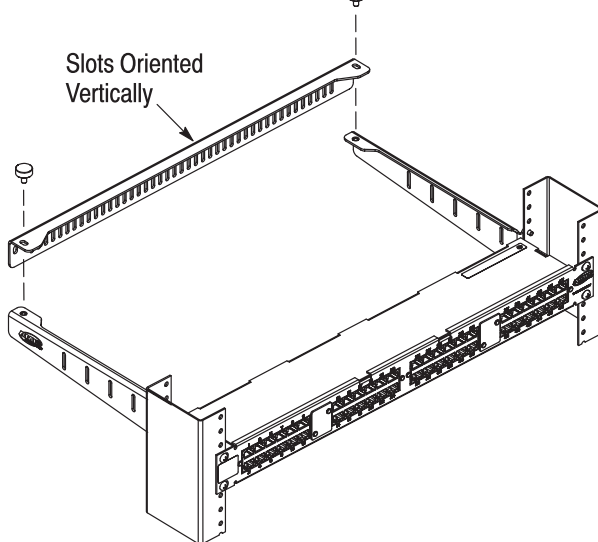

Figure 3
1. Align the mounting holes of tie down bar with the ends of the brackets so that the slots of the tie down bar are oriented either horizontally (shown in Figure 3, Detail A) or vertically (shown in Figure 3, Detail B).